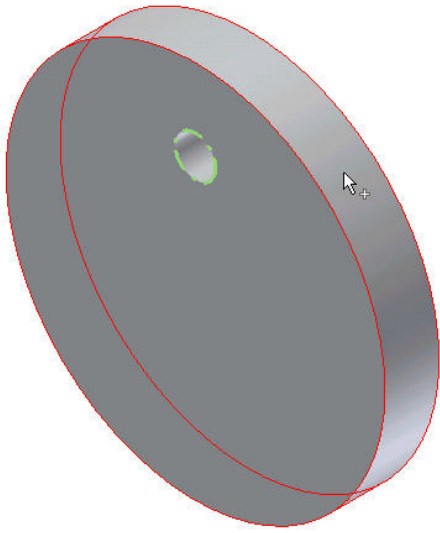

Figure 57
- We will use the given axis of extrusion 1. Select and click on the base feature as shown in Figure 57.